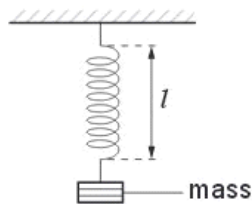

Fig. 3.3
- (c) The arrangement shown in Fig. 3.3 is used to determine the length l of a spring when different masses M are attached to the spring.